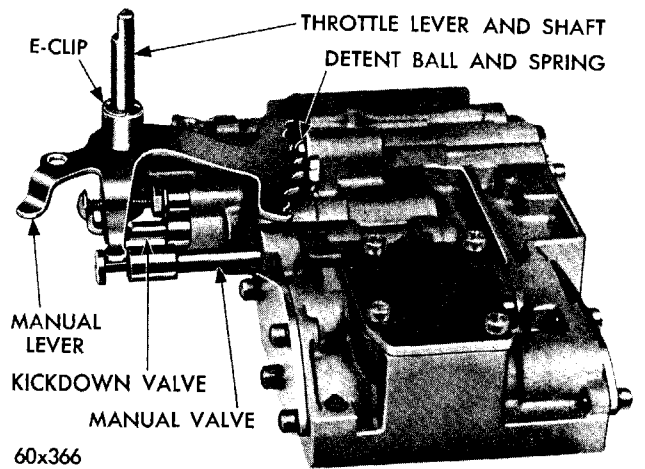

Fig. 36—Manual Lever, Detent Ball and Spring, Throttle Lever and Shaft, Manual Valve, and Kickdown Valve (Assembled View)
(9) Invert valve body and lay it on a clean cloth or paper. Remove E-clip from the throttle lever shaft (Fig. 36). Remove any burrs from the shaft, then while holding manual lever detent ball and spring in their bore with Tool C-3765 or similar tool, slide manual lever off the throttle shaft. Remove detent ball and spring.
(9) Install manual valve in the valve body (Fig. 36).